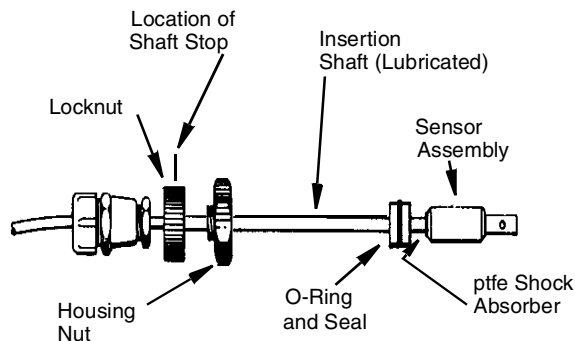

Figure 9. Assembly of Gate-Valve Insertion Sensor
5. Slide the ptfе shock absorber and the O-ring and seal onto the insertion shaft until the shock absorber is against the sensor assembly (see Figure 9).